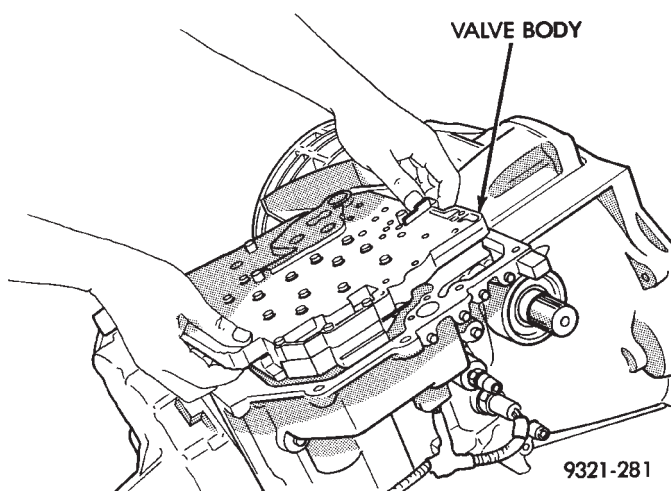

Fig. 47 Remove Valve Body From Transaxle
- (8) Carefully remove valve body assembly from transaxle (Fig. 47).